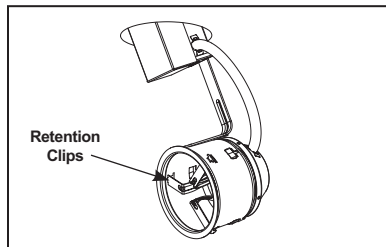

Figure 3
**Step 4.** Press housing through ceiling opening until flush to ceiling (Fig. 3). Push retention clips outward until they click into position. Note: To remove housing from ceiling, push tab on clip upward to disengage.